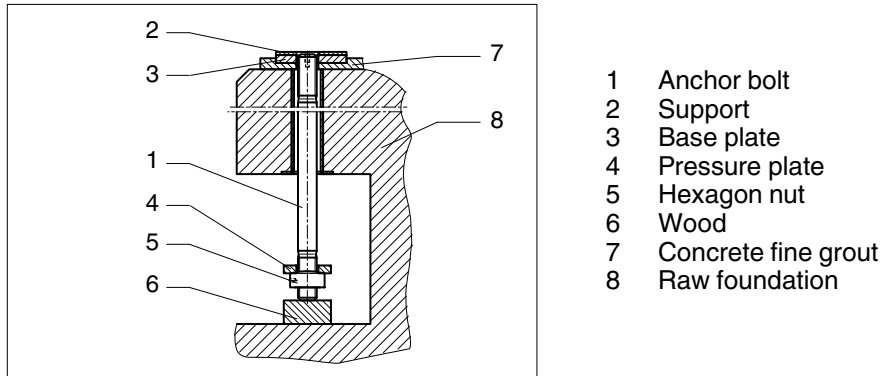

Fig. 51: Anchor bolt
- Pack the anchor bolt with wood so that it is about 10 mm from the upper edge of the support (see figure 51).